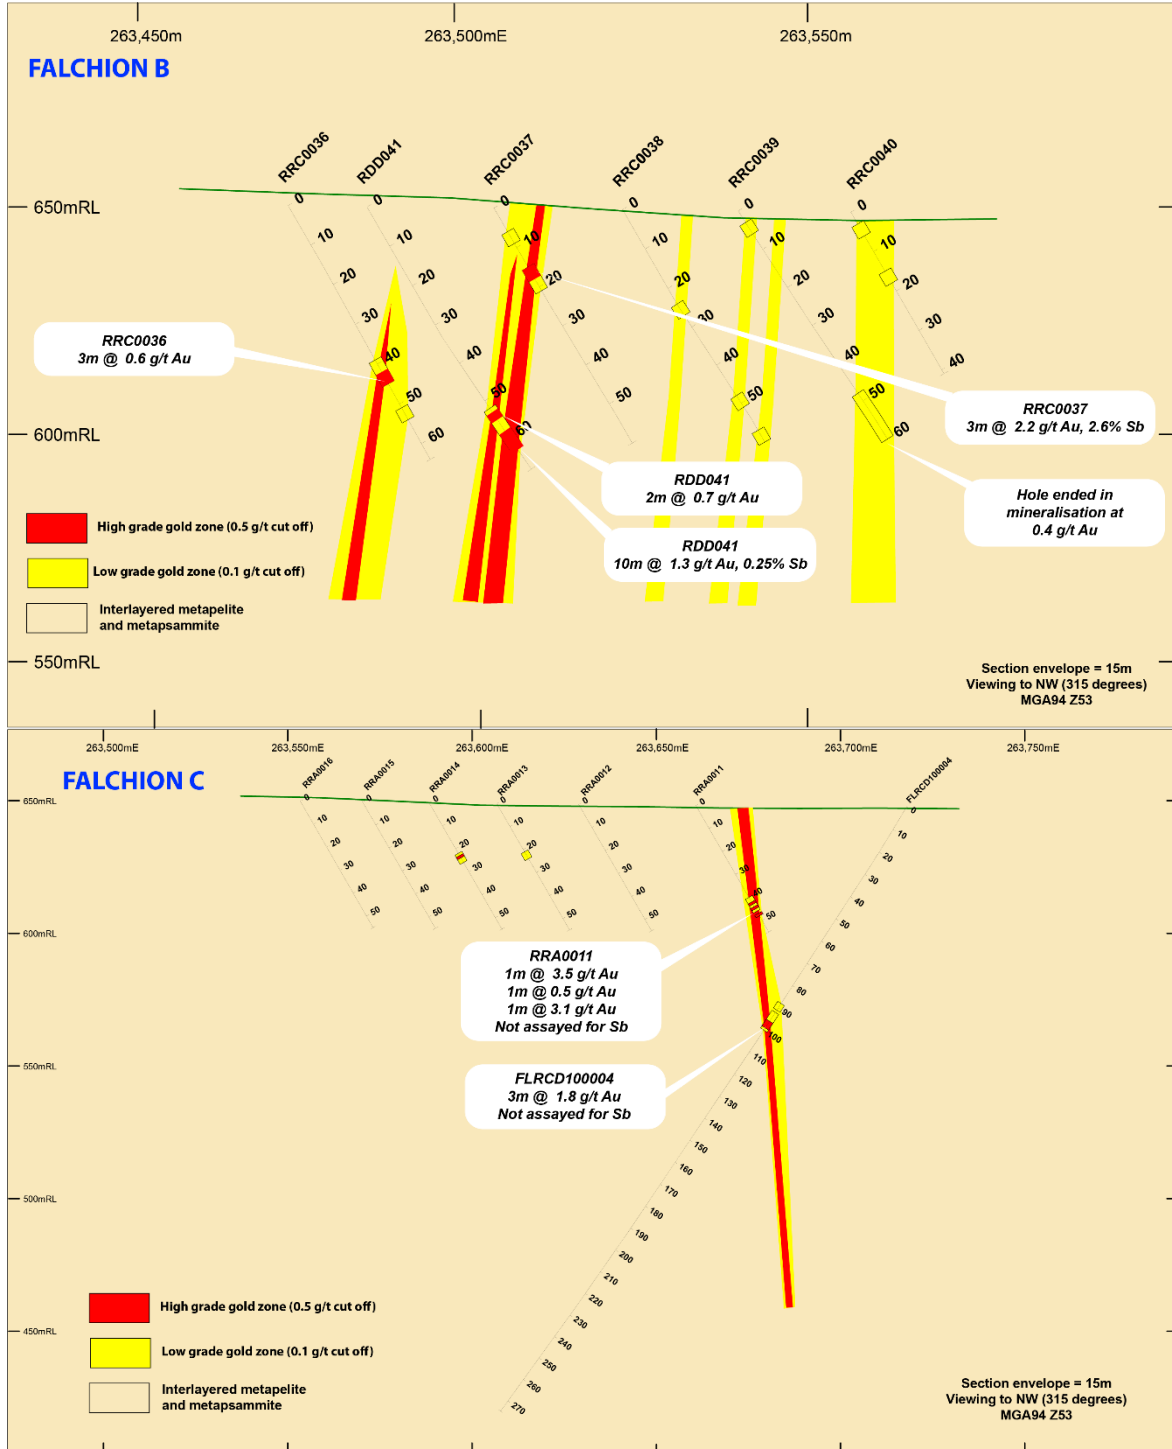

Figure 3. Cross sections through the Falchion Gold Prospect
- down dip of existing mineralisation (figure 3)